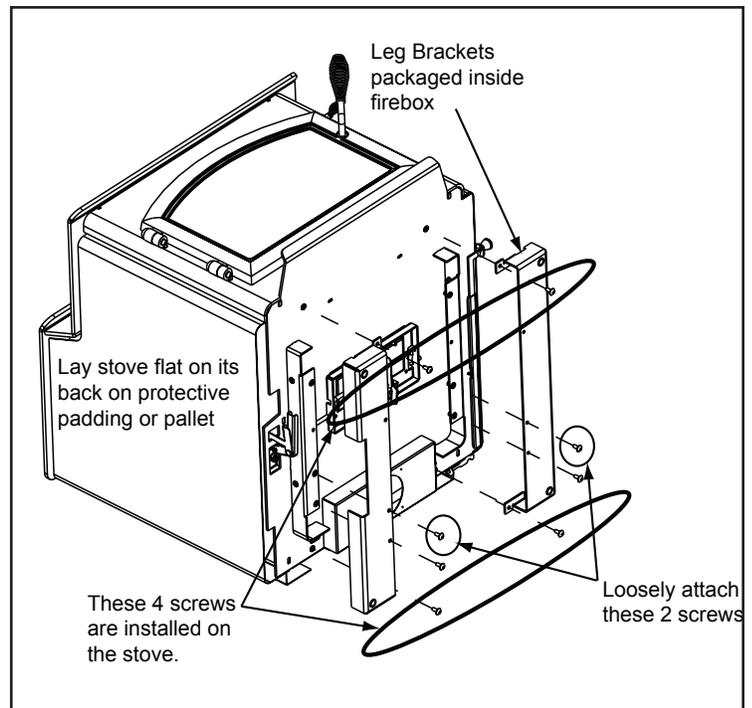

Figure 43.1
2. There are 4 screws that are installed on the stove. Remove the screws and use to secure the mounting brackets to the stove at the very top and bottom of the brackets. **Figure 43.1**.
3. There are 6 screws included with the leg kit. Attach 4 of the screws to the bracket at the bottom, leaving the 2 screws loose as identified in **Figure 43.1**.